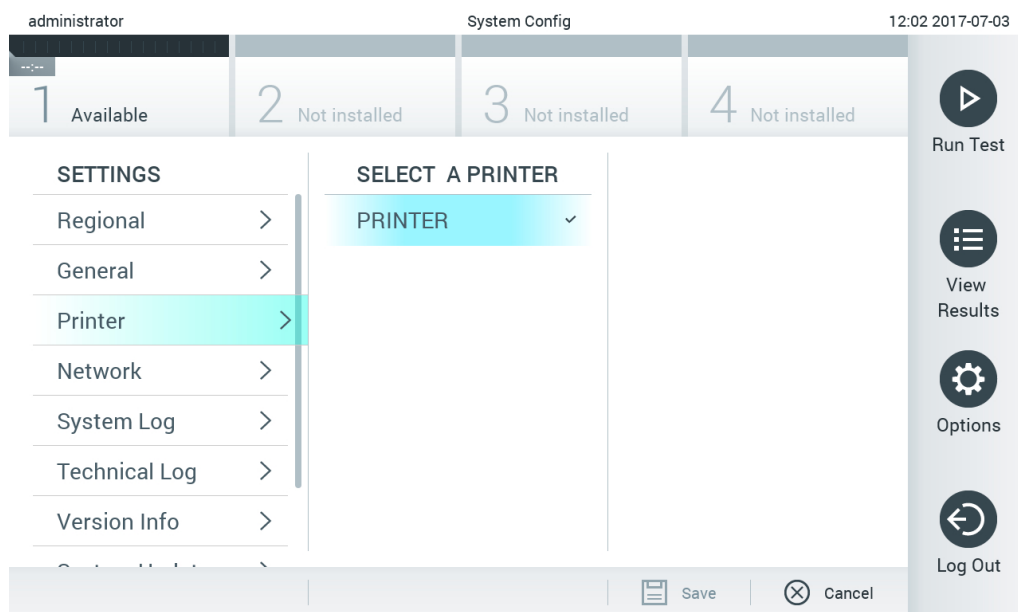

Figure 65. Selecting a system printer.
3. Select a printer from the list of available printers (Figure 65).